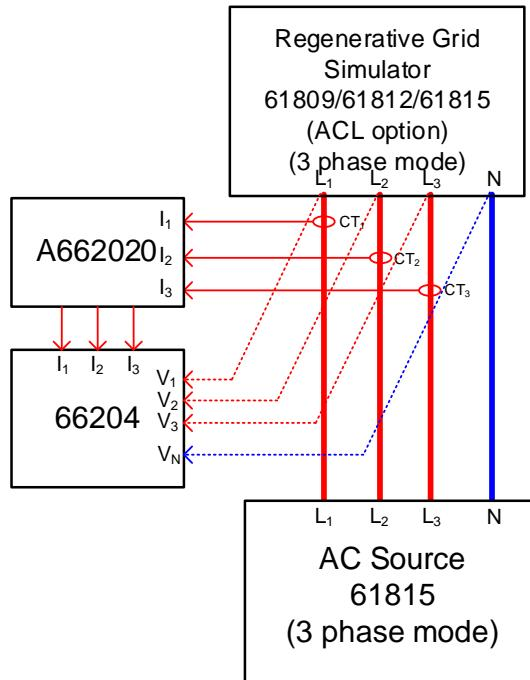

Figure 7-6
- Connect the Regenerative AC Load, AC Source, Power Analyzer, and Current Transducer as shown in Figure 7-6. Use the Power Analyzer to measure the AC Iac current.
- Connect the Regenerative AC Load, AC Source, Power Analyzer, and Current Transducer as shown in Figure 7-6. Use the Power Analyzer to measure the apparent power S.